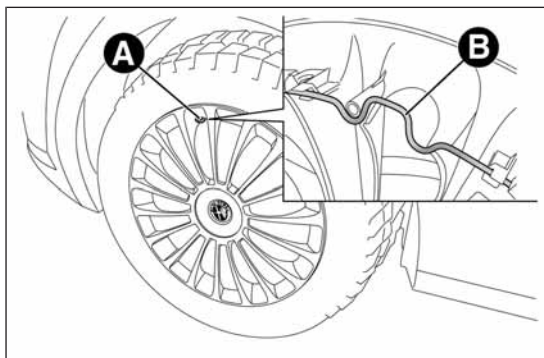

fig. 118
- ☐ **for versions with steel rims:** insert the screwdriver in the opening A fig. 118 in order to trigger the hub cap retaining clip B;